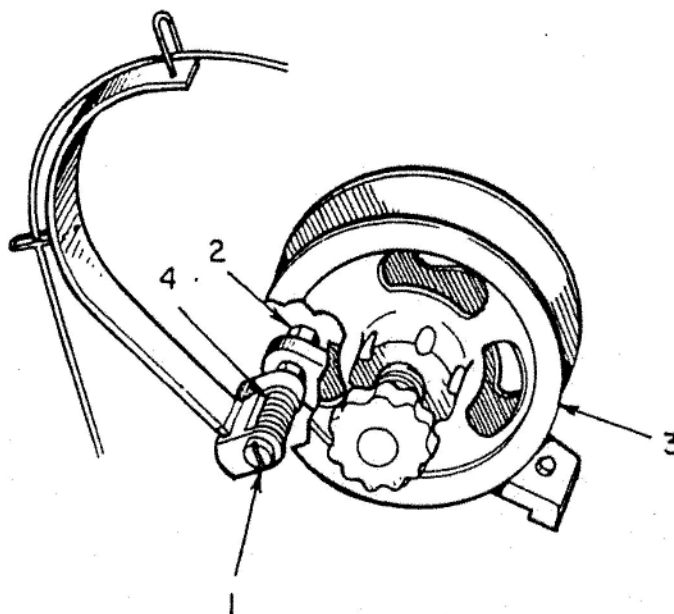

Figure 4 - Wire Threading
Place a spool of wire of the proper size on the spool holder above the stitching head. Refer to Bliss Head Instruction Manual BSA486 for the proper method for inserting the wire into the stitching head. Saturate Oiler Felt in stitching head with oil. Adjust the brake on the wire spool (3), Figure 4, by increasing or decreasing the tension of the spring (4). To adjust, loosen nut (2) and turn slotted screw (1) in or out. Retighten the nut (2) after adjustment. Use the least tension possible. Tension must be great enough to prevent spool from unwinding but not enough to cause binding and uneven stapling.